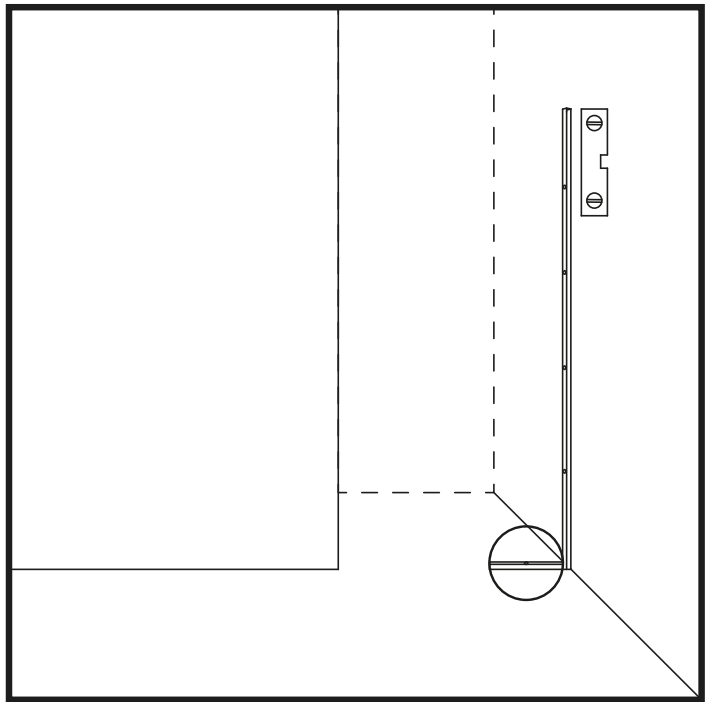

Figure 4
10. Place the shorter U-profile on the floor, with the end against the U-profile on the wall and parallel to the opposite wall. (Figure 4)